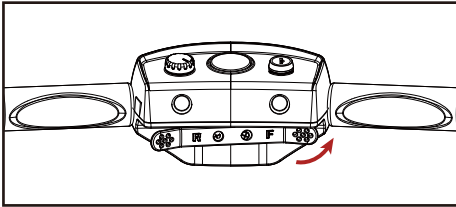

Figure 2 : Forward Throttle Operation
- To move the scooter forward, push the lever inward with your right thumb(see Figure 2) .